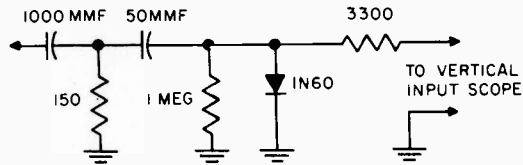

Fig. 3. IF Detector Ckt.
3. Couple scope to set through the detector circuit of Fig. 3 as required in chart. When no detector circuit is required, couple the scope through a 3300 ohm isolation resistor.